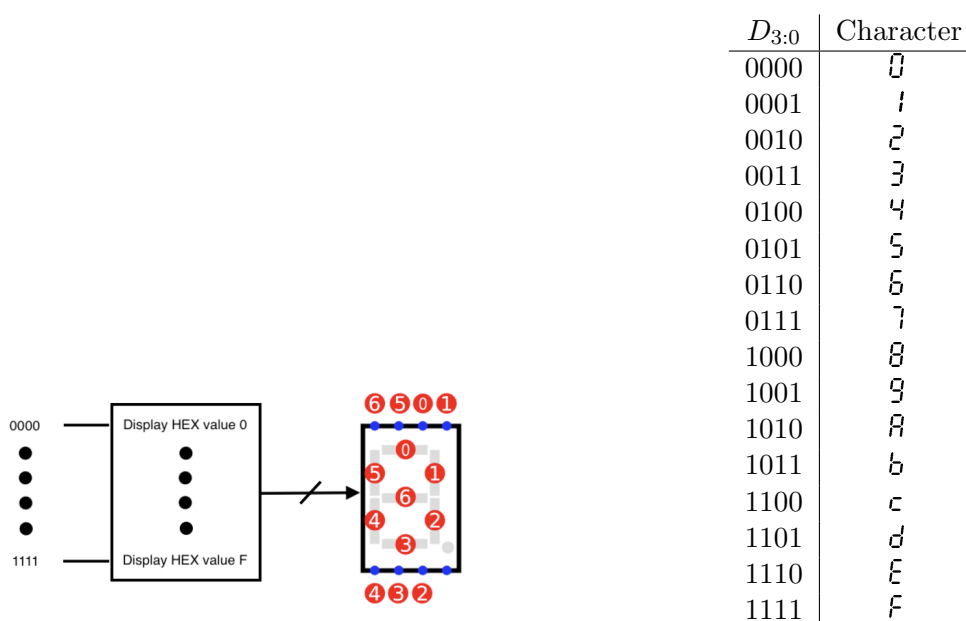

Figure 2.4: A decoder driving a 7-segment display Table 2.2: The desired behaviour of the decoder
In this part, you design a decoder for a 7-segment display (Figure 2.4). As the name implies, the display has seven segments (lines) that can be ON or OFF. The 7-segment display shown in Figure 2.4 has a number associated with each segment. So we can refer to a segment by its number. For example, the top-most horizontal segment is S_0 , which we can turn ON or OFF by driving pin 0 (third dot from the left at the very top of the display).
5. In the same file, in your top-level circuit, create a circuit like the one shown in Figure 2.4. The circuit should have four input pins called `SW3`, `SW2`, `SW1`, and `SW0`. Once again, use hierarchical design to instantiate your `HEX_DECODER` subcircuit. In Logisim Evolution, you can find the 7-Segment Display under **Input/Output**; your top-level circuit should not have an output pin, only the 7-segment display. When you are done, remember to upload your designs (i.e., the `.circ` file) as part of your required files.